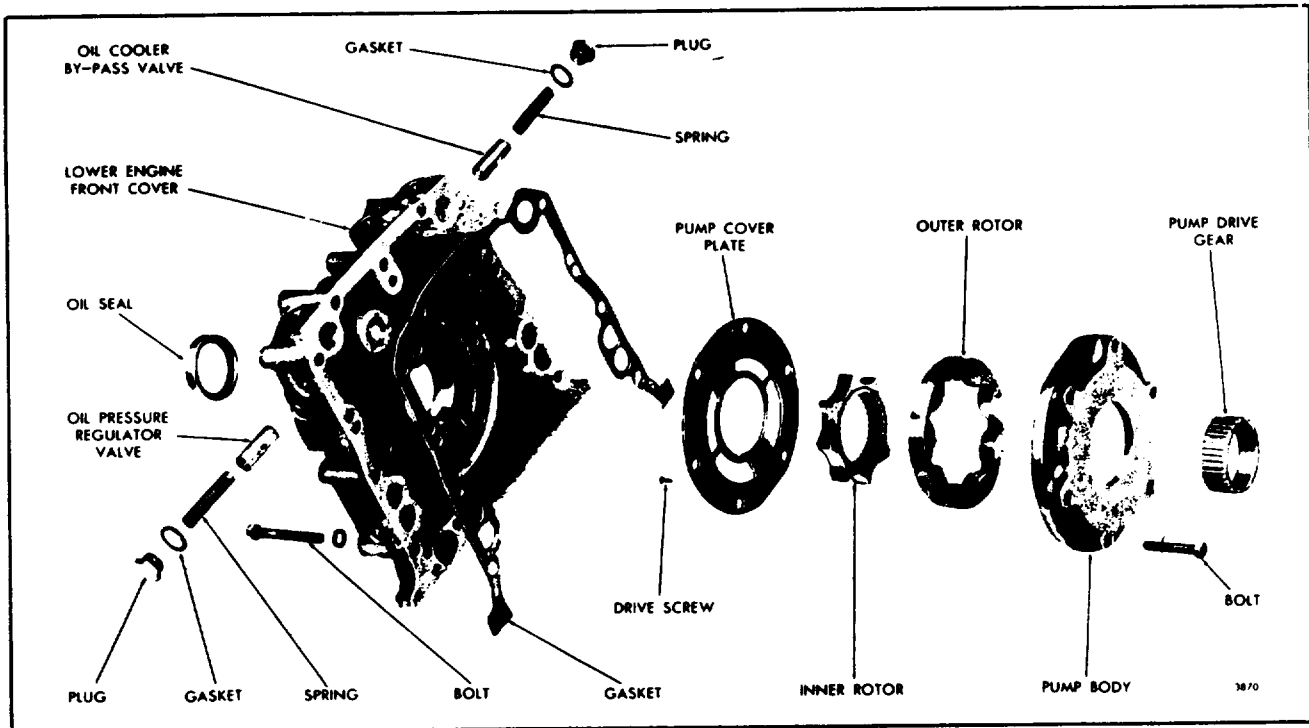

Fig. 5. - Lubricating Oil Pump Details and Relative Location of Parts (Current)
1. Refer to Fig. 5 or 6 and remove the two drive screws holding the pump cover plate to the pump body. Withdraw the cover plate from the pump body.
After the oil pump parts have been cleaned and inspected, refer to Fig. 5 and assemble the pump as follows: